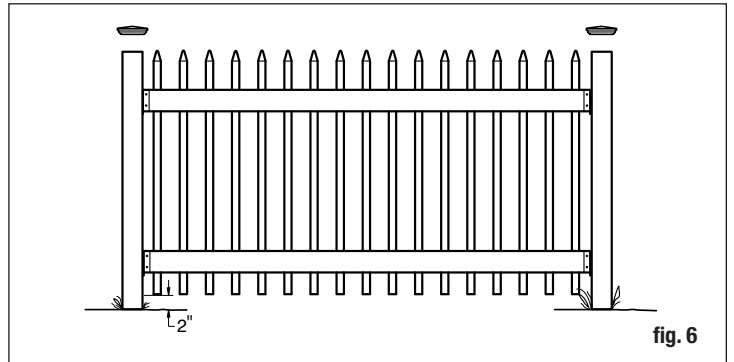

fig. 6
- Starting at a corner, mix concrete in the first hole per the instructions on the bag. Mix thoroughly and install the post into the hole and tap the post to the proper depth. Measure to be sure you can install the finished panel to the post with approximately a 2" gap from the ground to the bottom of the panel. You may also need to leave a space from the highest point of the panel to the top of the post (fig. 6). The spacing allows the cap to be installed on top of the post without interference with the top rail.